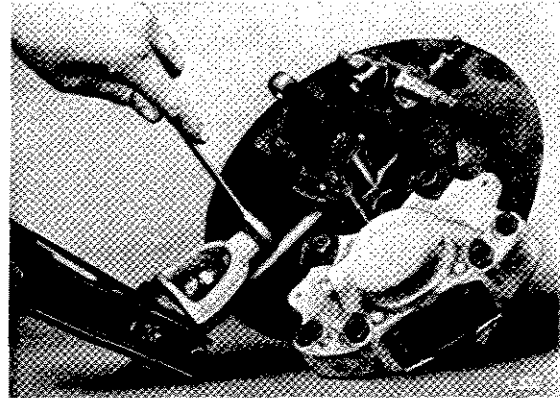

Fig. 11. Showing the later type ball joint
Support the spring pan with a jack and remove the nyloc nut (15). Using extractor tool No. S.166, separate the ball joint (12) from the vertical link as shown on Fig. 11. Release the ball joint from the upper wishbones by removing the nyloc nuts (9), plain washers (10) and bolts (8).